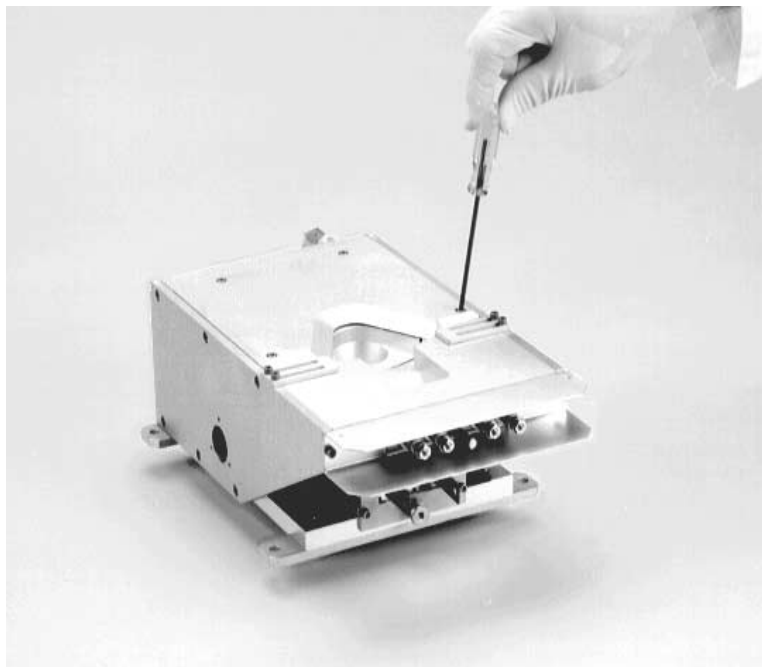

Figure 6-1. Removing the crucible cover
Step 1: Using the Allen tool provided with the unit, remove the 4 socket-head screws that secure the crucible cover to the coil housing (see Figure 6-1). Then remove the cover.